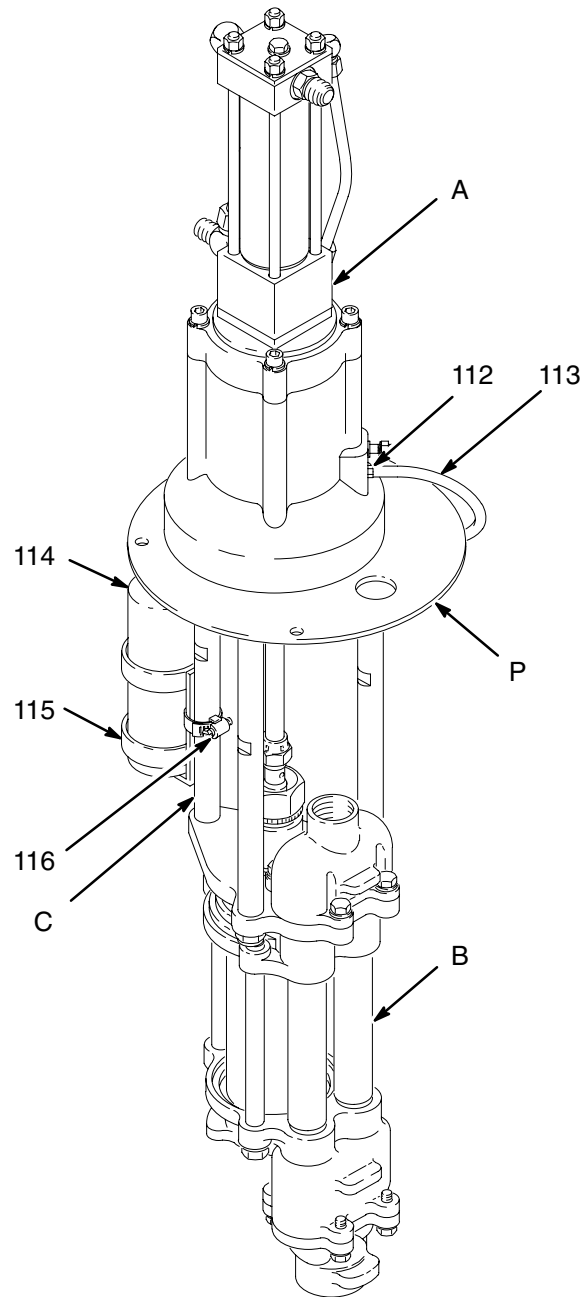

Fig. 2
Connect the hydraulic motor (A) to the displacement pump (B) as explained in your separate pump manual. See Fig. 2.
1. Push the drain hose (113) securely onto the barbed adapter (112). See Fig. 2.
2. Position the holder (115) on a pump tie rod (C) and secure with the hose clamp (116). Place the drain bottle (114) in the holder.
3. Place the drain hose (113) in the drain bottle so it hangs well down inside the bottle. Adjust the position of the holder, if necessary.